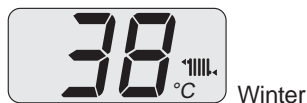

Fig. 2.4
- Turn on the electricity supply to the boiler, switching on the fused spur isolation switch.. The LCD display displays the state within which the boiler is found (last memorised) Fig. 2.4.